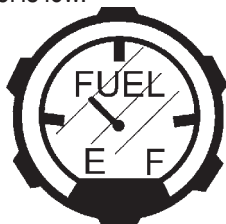

Figure 11. Fuel Gauge
3. Read the fuel gauge (Figure 11) located on top of the fuel tank to determine if fuel level is low.